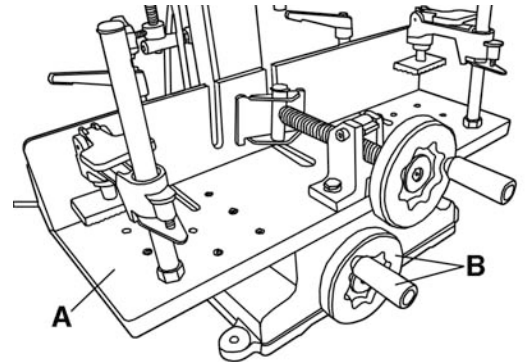

Figure 7
The sliding table (A) Fig.7 is very convenient if you plan on making multiple cuts in the same workpiece, it allows you to move the sliding table over instead of unclamping and repositioning your workpiece. To move the the sliding table to the right or left, turn the lower handwheel (B).